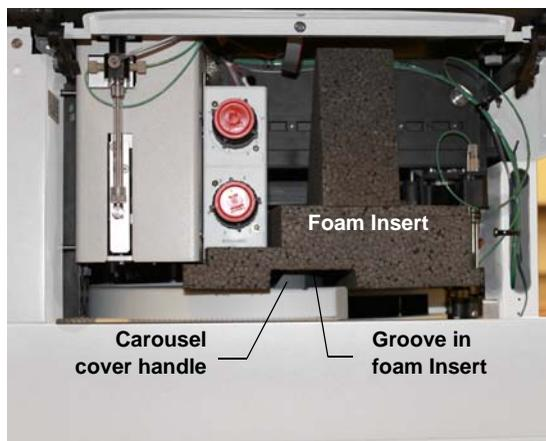

Figure 3-17. *Foam Insert Installed for Moving or Shipping the Dionex AS-AP*
- c. Push the insert into the Dionex AS-AP body (see Figure 3-17).